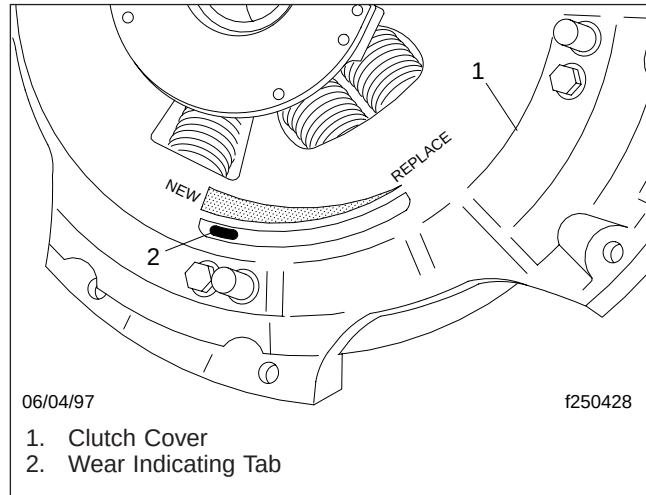

Fig. 9, Resetting the Wear Indicating Tab
4. Slide the wear indicating tab to the left until it is at the NEW position of the indicator (**Fig. 9**) and hold it in position with a magnet.